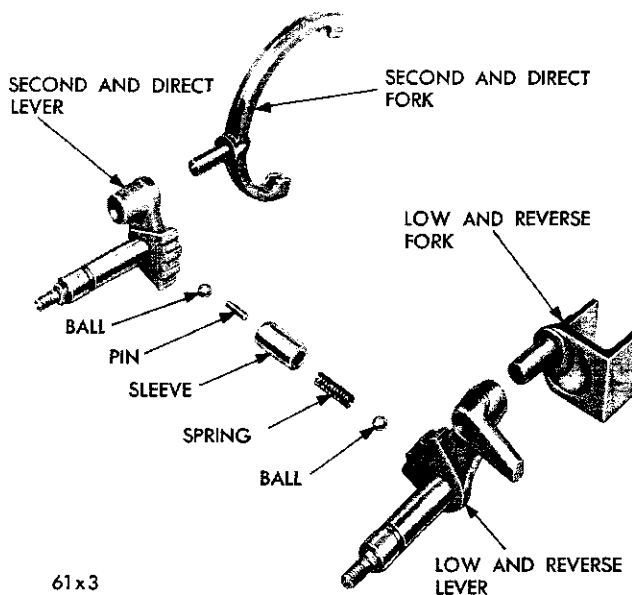

Fig. 7—Gearshift Forks and Shafts
(1) If necessary, remove both of the lever shaft seals, using Tool C-3638. (Fig. 7.)
(2) Using a small punch, remove the low and reverse gear lever shaft tapered lock pin by driving it toward the top of the transmission case.
(3) Remove the second and third gear lever shafts in the same manner.
(4) Remove the lever shafts from the transmission case, taking care not to lose the spring loaded detent balls.
(5) Remove the interlock sleeve, spring pin and detent balls.